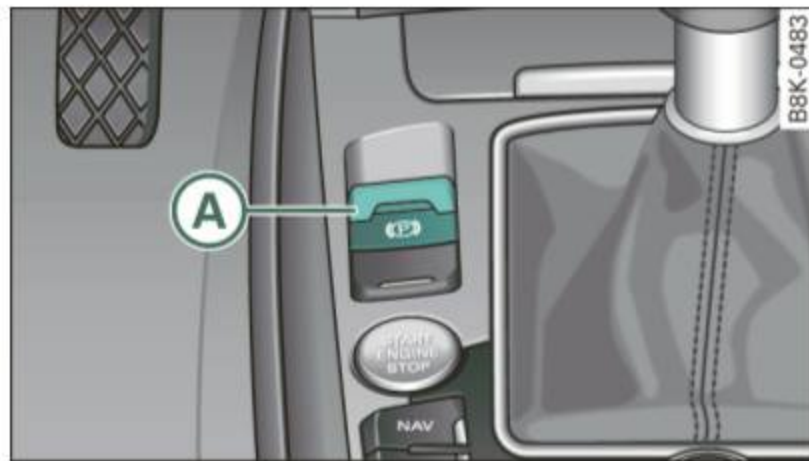

Fig. 118 Center console: Parking brake
- Pull on the switch **A** ⇒ fig. 118 to apply the parking brake. The indicator light in the switch illuminates.